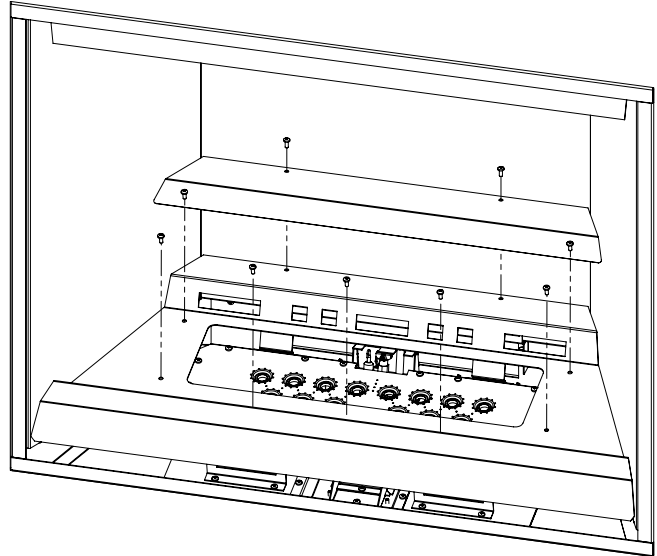

Figure 20: Media Tray Removal
5. Remove the upper tray hat by removing the two (2) upper T-20 screws.
6. Remove the seven (7) remaining T-20 screws securing the glass media tray (see Figure 20). Lift up and out.